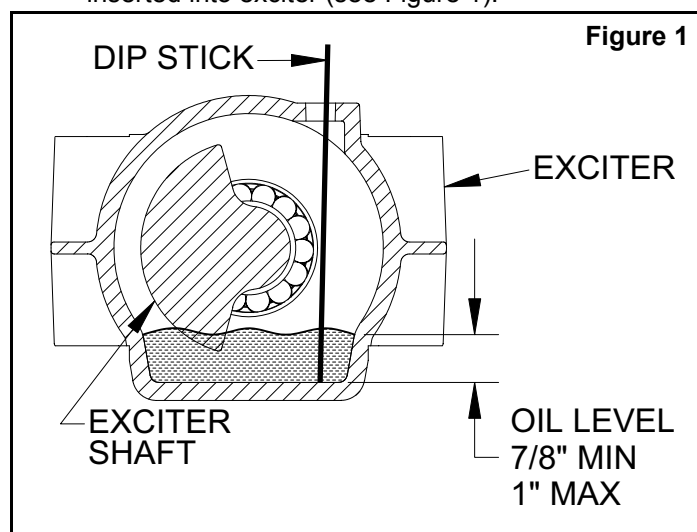

Figure 1
6. Rotate exciter shaft so a metal dip stick kind can be inserted into exciter (see Figure 1).
7. The oil level should be between 7/8" to 1" deep on bottom of exciter (see Figure 1).